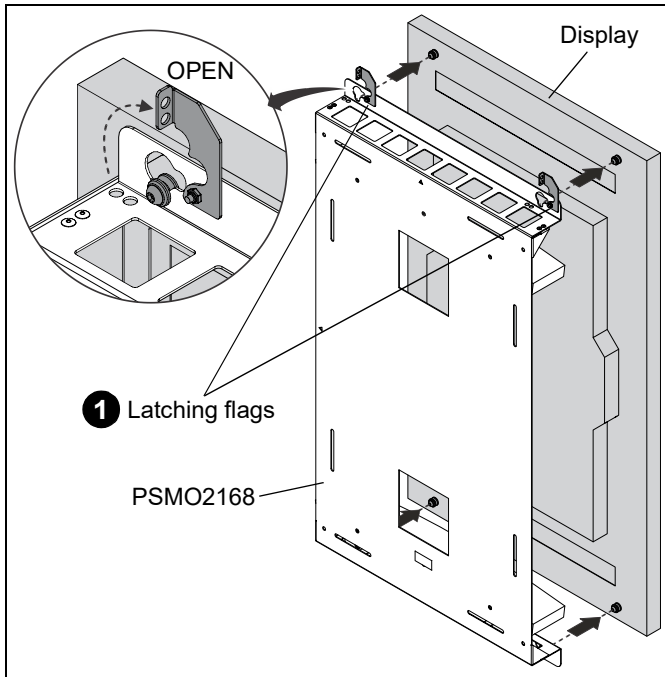

Figure 1
1. If installed, remove the display from the PSMO2168 mount. Move latching flags to the **OPEN** position, then lift display up and pull it away from the mount. (See Figure 1)